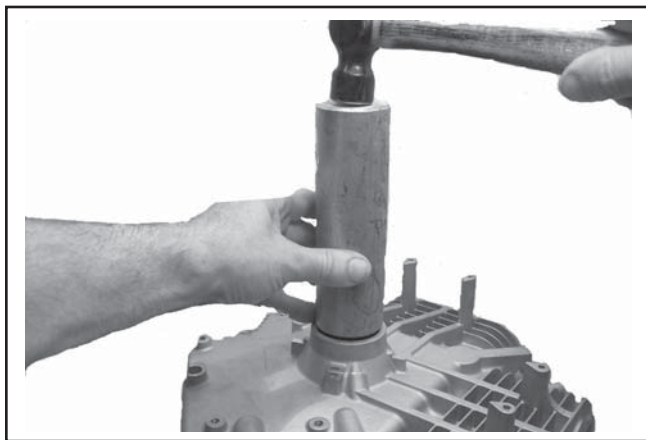

Figure 10-2. Installing Oil Seal in Crankcase.
3. Install the oil seal into the crankcase using a seal driver. Make sure the oil seal is installed straight and true in the bore and the tool bottoms against the crankcase. See Figure 10-2.